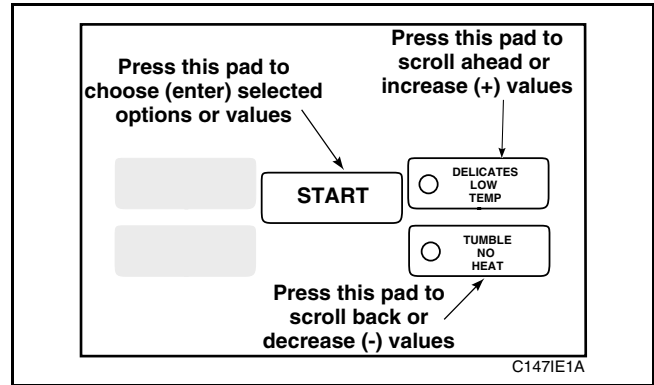

Figure 96
5. Press the LOW TEMP (+) pad or the NO HEAT (-) pad to increase or decrease the year until correct, *Figure 96*.